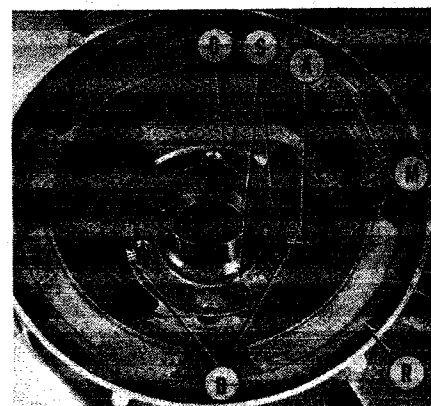
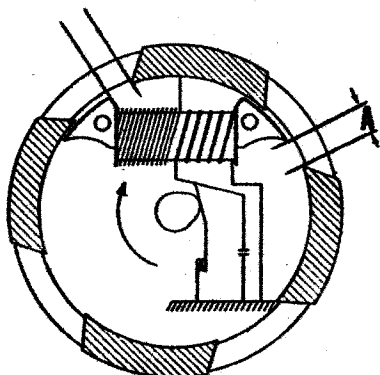
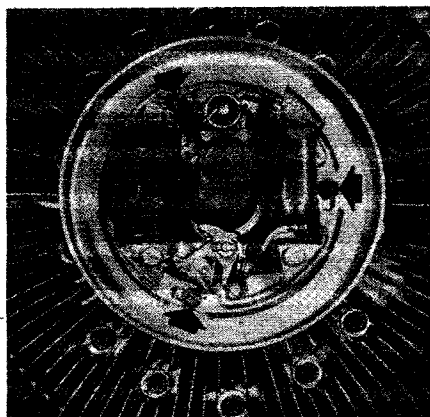

Fig. 2—Inside view of flywheel showing magnets and breaker cam. Refer to text for details.
Fig. 4—With "M" timing mark aligned, edge gap (A) should measure 15-19 mm (0.590-0.748 inch).
Fig. 5—View of engine with flywheel removed, showing armature plate attaching screws (Arrows).
rotation when viewed from Power Take-Off End of crankshaft. On the Wankel engine, cam MUST be installed with "L" mark aligned with reference mark on flywheel as shown in Fig. 2.
Temporarily position the flywheel and turn crankshaft until "M" timing mark on magneto housing aligns with scribe mark on crankcase as shown in Fig. 1. Measure the edge gap (A—Fig. 4) working through opening in magneto housing. Edge gap should be 0.590-0.748 in.; if it is not, lift off the flywheel and loosen the three screws (Fig. 5) securing armature plate to crankcase. Reposition the plate and recheck by installing flywheel. When edge gap is correctly adjusted, set breaker point gap to recommended opening (0.4 mm or 0.016 in.) and turn crankshaft until "M" timing mark on flywheel is again aligned. Breaker points should be just starting to open; if they are not, remove flywheel and loosen the four screws (S—Fig. 2) securing breaker cam (C) to flywheel. Reposition the cam and recheck, then tighten screws securely when cam is properly positioned.